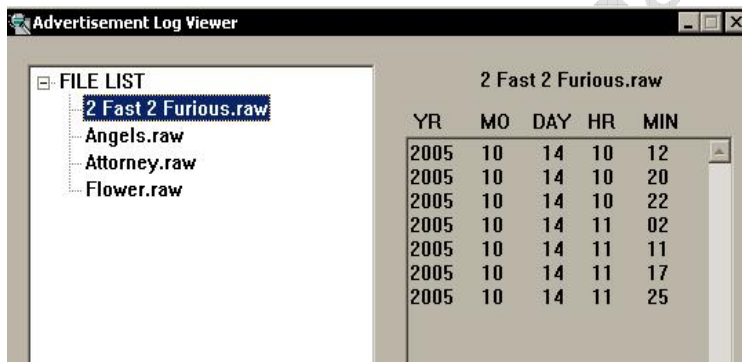

FIG 4.3
- 4) Click on the desired files to see their frequency of play back. The application displays year, month, day, hour and minutes when the advertisement clips were played back by MDVR. A sample report is shown in FIG 4.3. Once completed, click "EXIT" to quit the application.